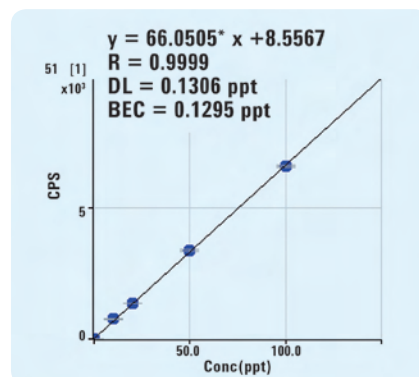

Figure 1. Calibration for V in 9.8% H2SO4. BEC and DL of 0.13 ppt
MS/MS mode performance on the 8800 is illustrated in the calibration plot and spectrum shown in Figures 1 and 2. Figure 1 shows the calibration for V in high-purity H2SO4 (measured directly at 9.8%, after a 1:10 w/w dilution). The use of NH3 cell gas provides very fast and effective removal of the SO+ and SOH+ overlaps on V at mass 51, allowing 51V+ to be measured directly at extremely low levels; background equivalent concentration (BEC) and detection limit (DL) were 0.13 ppt.